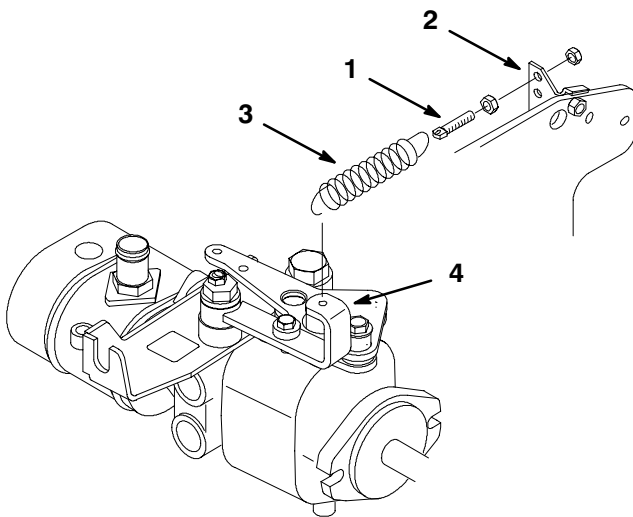

Figure 4
19. Loosen jam nuts securing adjusting pin to spring bracket (Fig. 4).
20. Unhook spring from pump arm. Remove jam nuts from adjusting pin (Fig. 4). Retain jam nuts but discard spring and adjusting pin.